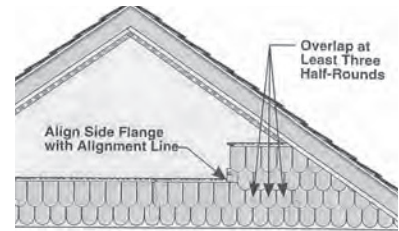

Fig.28
- b. Measure from the Left Side Flange making sure to stagger the laps by at least 3 round-cuts (Figure 28).
- c. Align Left Side Flange with near-est Alignment Line of course below (Figure 28).